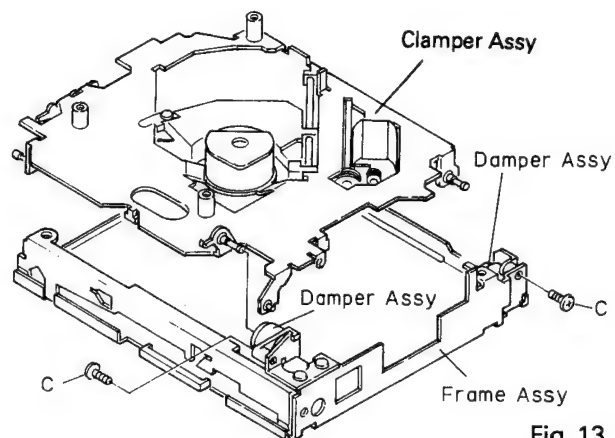

Fig. 13
7. Remove the frame assembly from the mechanical parts. (Fig. 13)
8. Remove the two screws C, and then remove the damper assy. (Fig. 13)
9. Remove the clamber assembly as shown in Fig. 13.